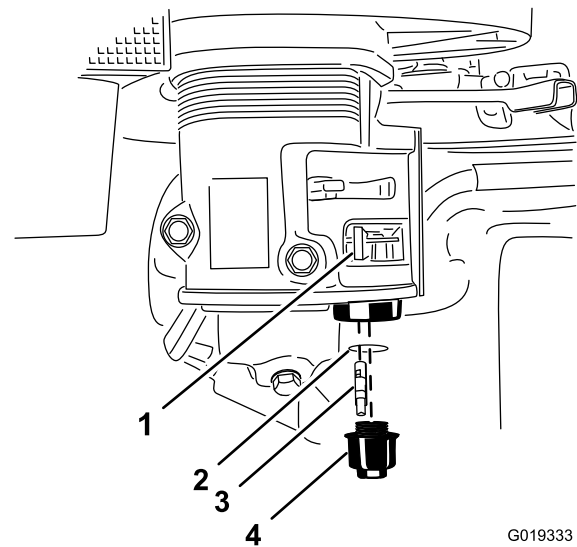

Figure 55
4. Move the lever of the fuel valve to the OFF position, all the way to the left (Figure 55).
5. Unscrew the fuel-sediment cup (Figure 55).
6. Remove and retain the fuel filter and O-ring (Figure 55).
9. Install the fuel filter in the bottom of the carburetor (Figure 55).